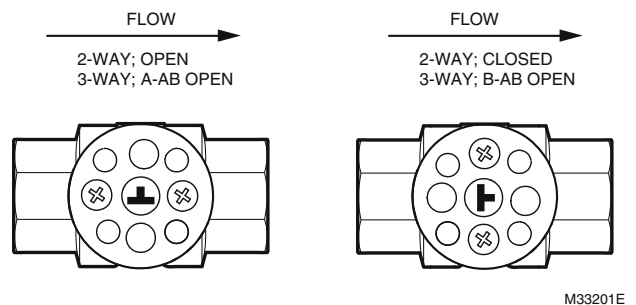

Fig. 32.
3. Remove the actuator. Ensure that the valve is closed. The T symbol on the stem should be oriented like it is in the right-side drawing in Fig. 32 below.
7. Insert the new stem. Be sure to align the key on the bottom of the stem with the slot in the ball, and the T symbol of the new stem is aligned exactly as the old one, like the right-side drawing in Fig. 32 below.